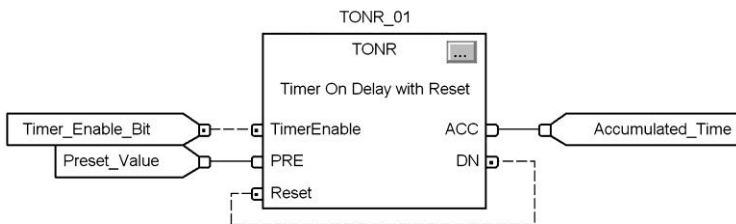

Figure 15-58 Wire connection for question 9.
9. With reference to Figure 15-58, the wire connected between the DN and Reset pins